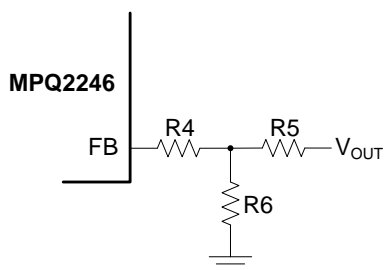

Figure 3: Feedback Network
The external resistor divider connected to FB sets V_{OUT} (see Figure 3). The FB resistor (R4) must account for both stability and dynamic response, so it cannot be too large or too small. R5 is estimated to be 100kΩ. R6 can be calculated with Equation (2):
Using a T-type feedback network is strongly recommended (see Figure 3).